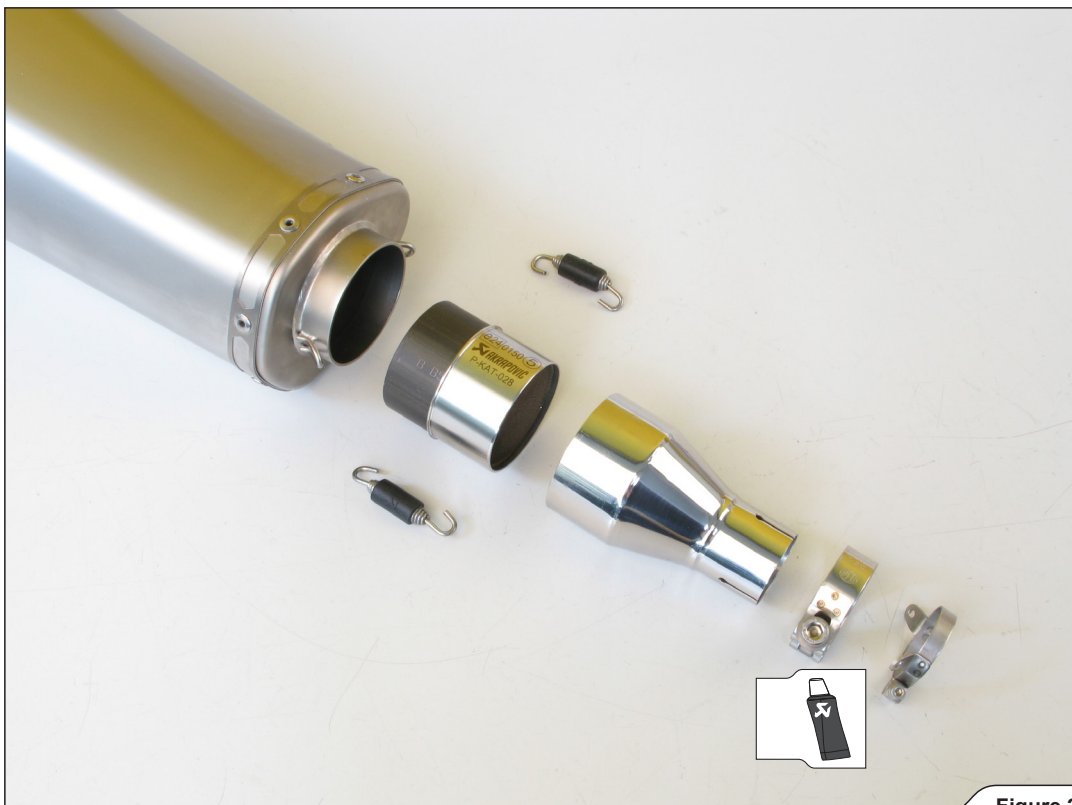

Figure 2
1. Prepare and correctly orient all the material from Akrapovič installation kit, as shown (Figure 2).